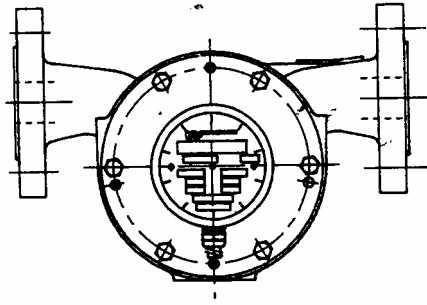

Fig. 5
2. Install flowmeter in horizontal or vertical process piping, in accordance with figure 5, 6 or 7.